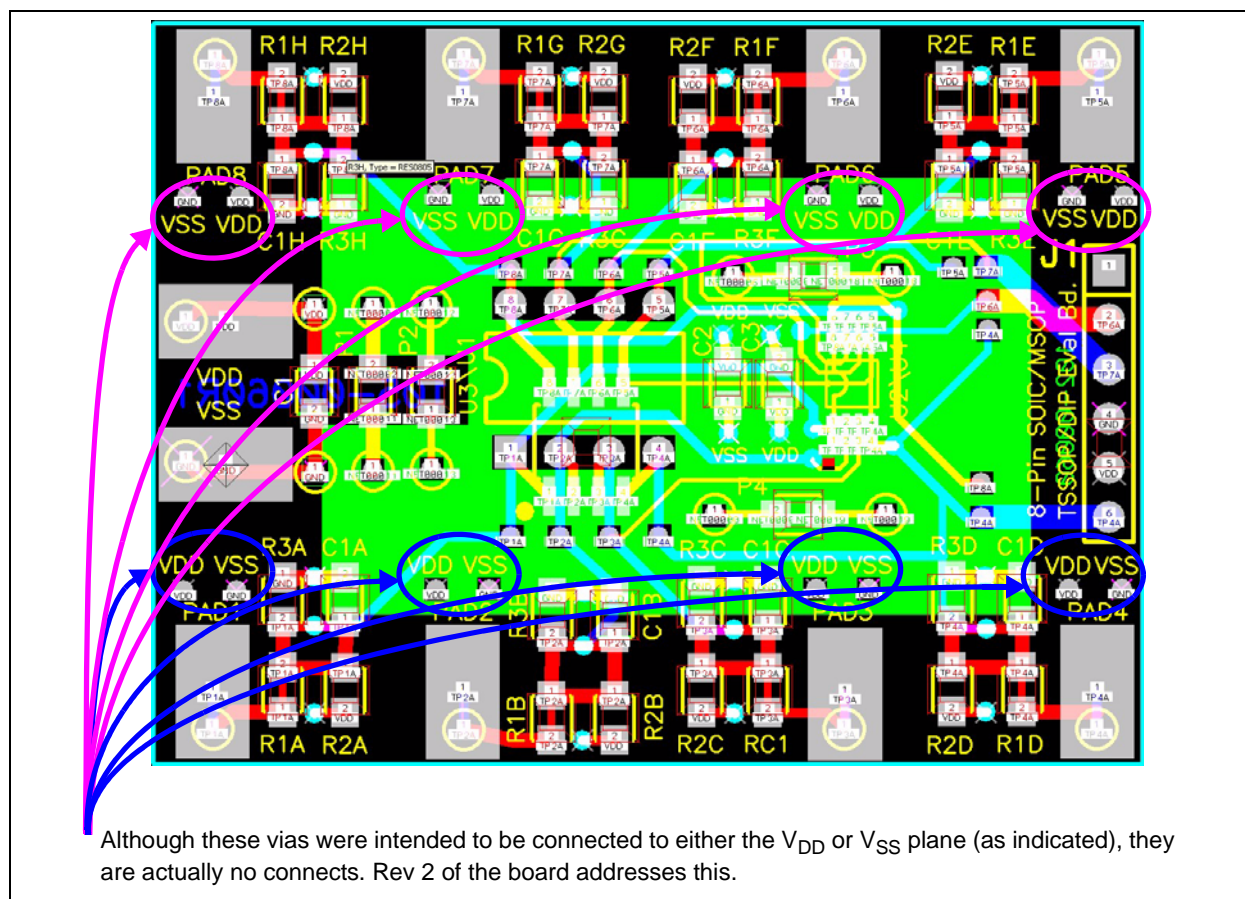
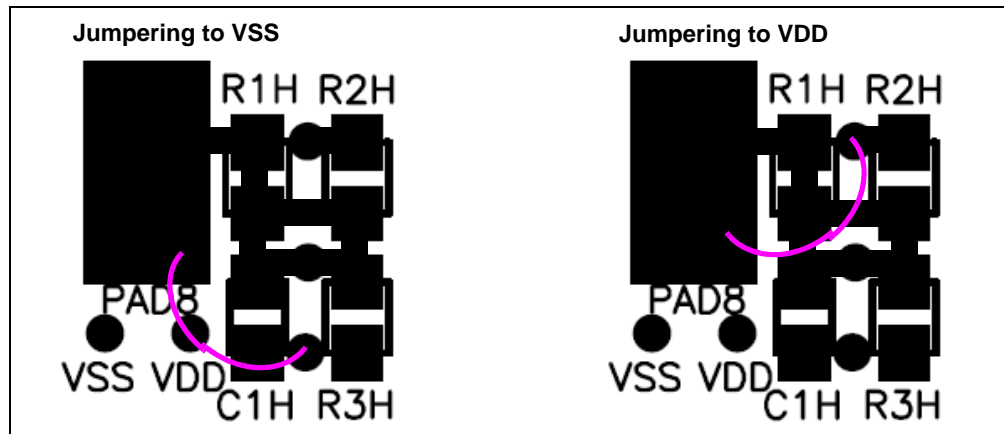

FIGURE D-1: 8-Pin SOIC/MSOP/TSSOP/DIP Evaluation Board Gerber - Top Layer + Silk-Screen.
FIGURE D-3: Alternate Jumping the PCB pad to either V_{SS} or V_{DD} .
1. VDD and VSS vias near each pad are No Connects (they should have been connected to the appropriate power or ground plane). See Figure D-1 shows the location of these vias that are No Connects. Figure D-3 shows alternate connections that can be made.
Figure D-3 shows how the pad can be connected to either the V_{DD} or V_{SS} plane of the PCB.